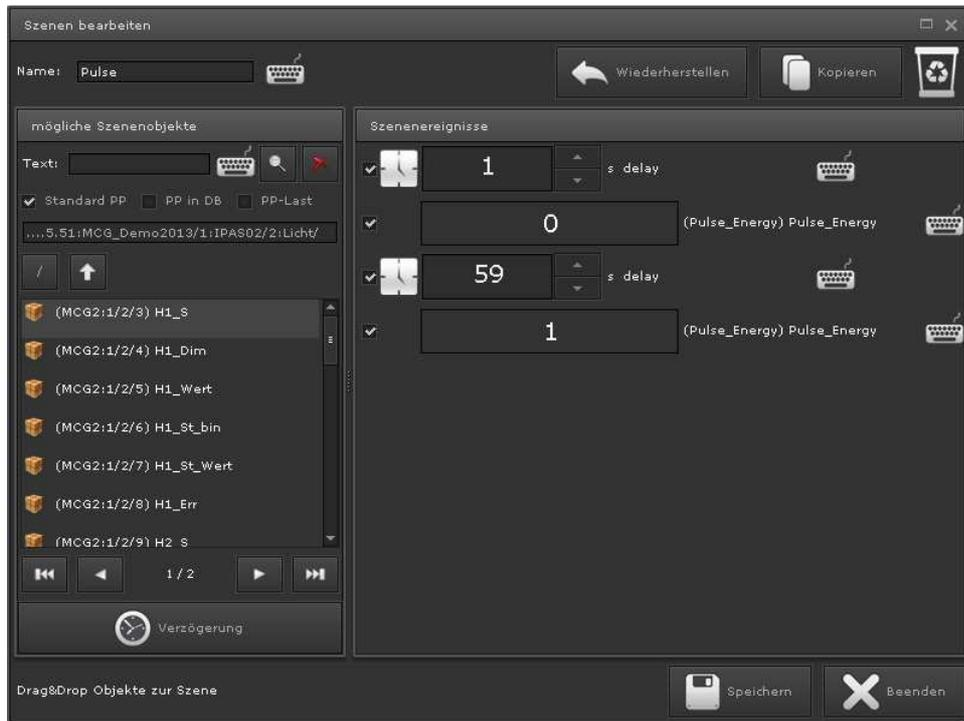

Abbildung 85:
-  Opens the scene editor (Abbildung 85:) to edit the scene.